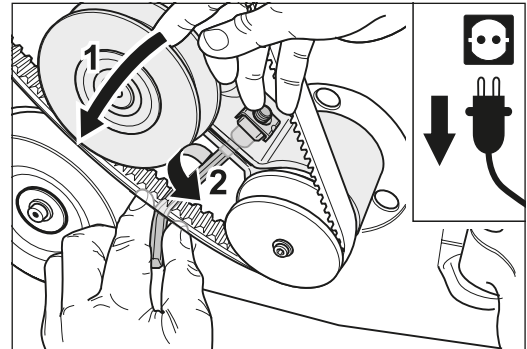

Fig. 97 To tension the suction V-belt, press the belt tensioner to the left (1) and at the same time carefully tighten the clamping screw (2).
- 6 Turn the belt tensioner counterclockwise to tension the suction V-belt (fig. 97, 1). Keep the belt tensioner in position and tighten the clamping screw at the belt tensioner carefully at the same time (fig. 97, 2).